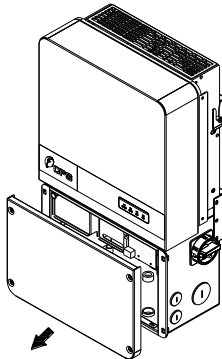

Figure 3-14 Removing the Wire-box Cover
1. Use a No. 3 Philips head screwdriver to remove the 4 screws on the wire-box and remove the cover. (See Figure 3-14)